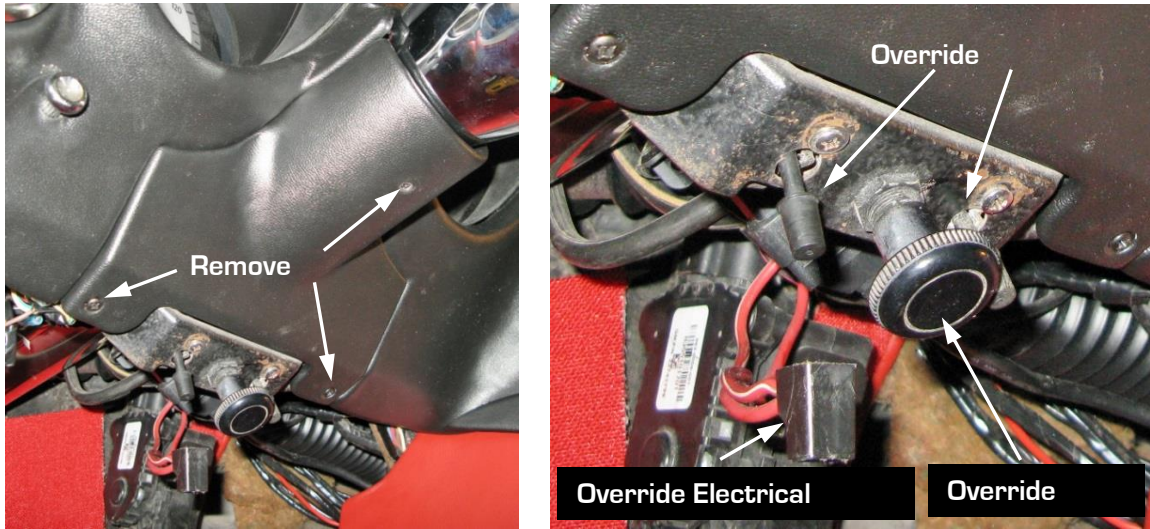

Figure 10 – Remove Lower Column Cover
19. To remove the steering column, start by removing the 2 screws from the lower column cover. **NOTE:** There may be 3 screws if you have an aftermarket steering column. You may find the vacuum override switches and/or the wiper override electrical switch (1968-72) attached to the cover (Figure 10). Remove the lower left hand side dash vent duct.